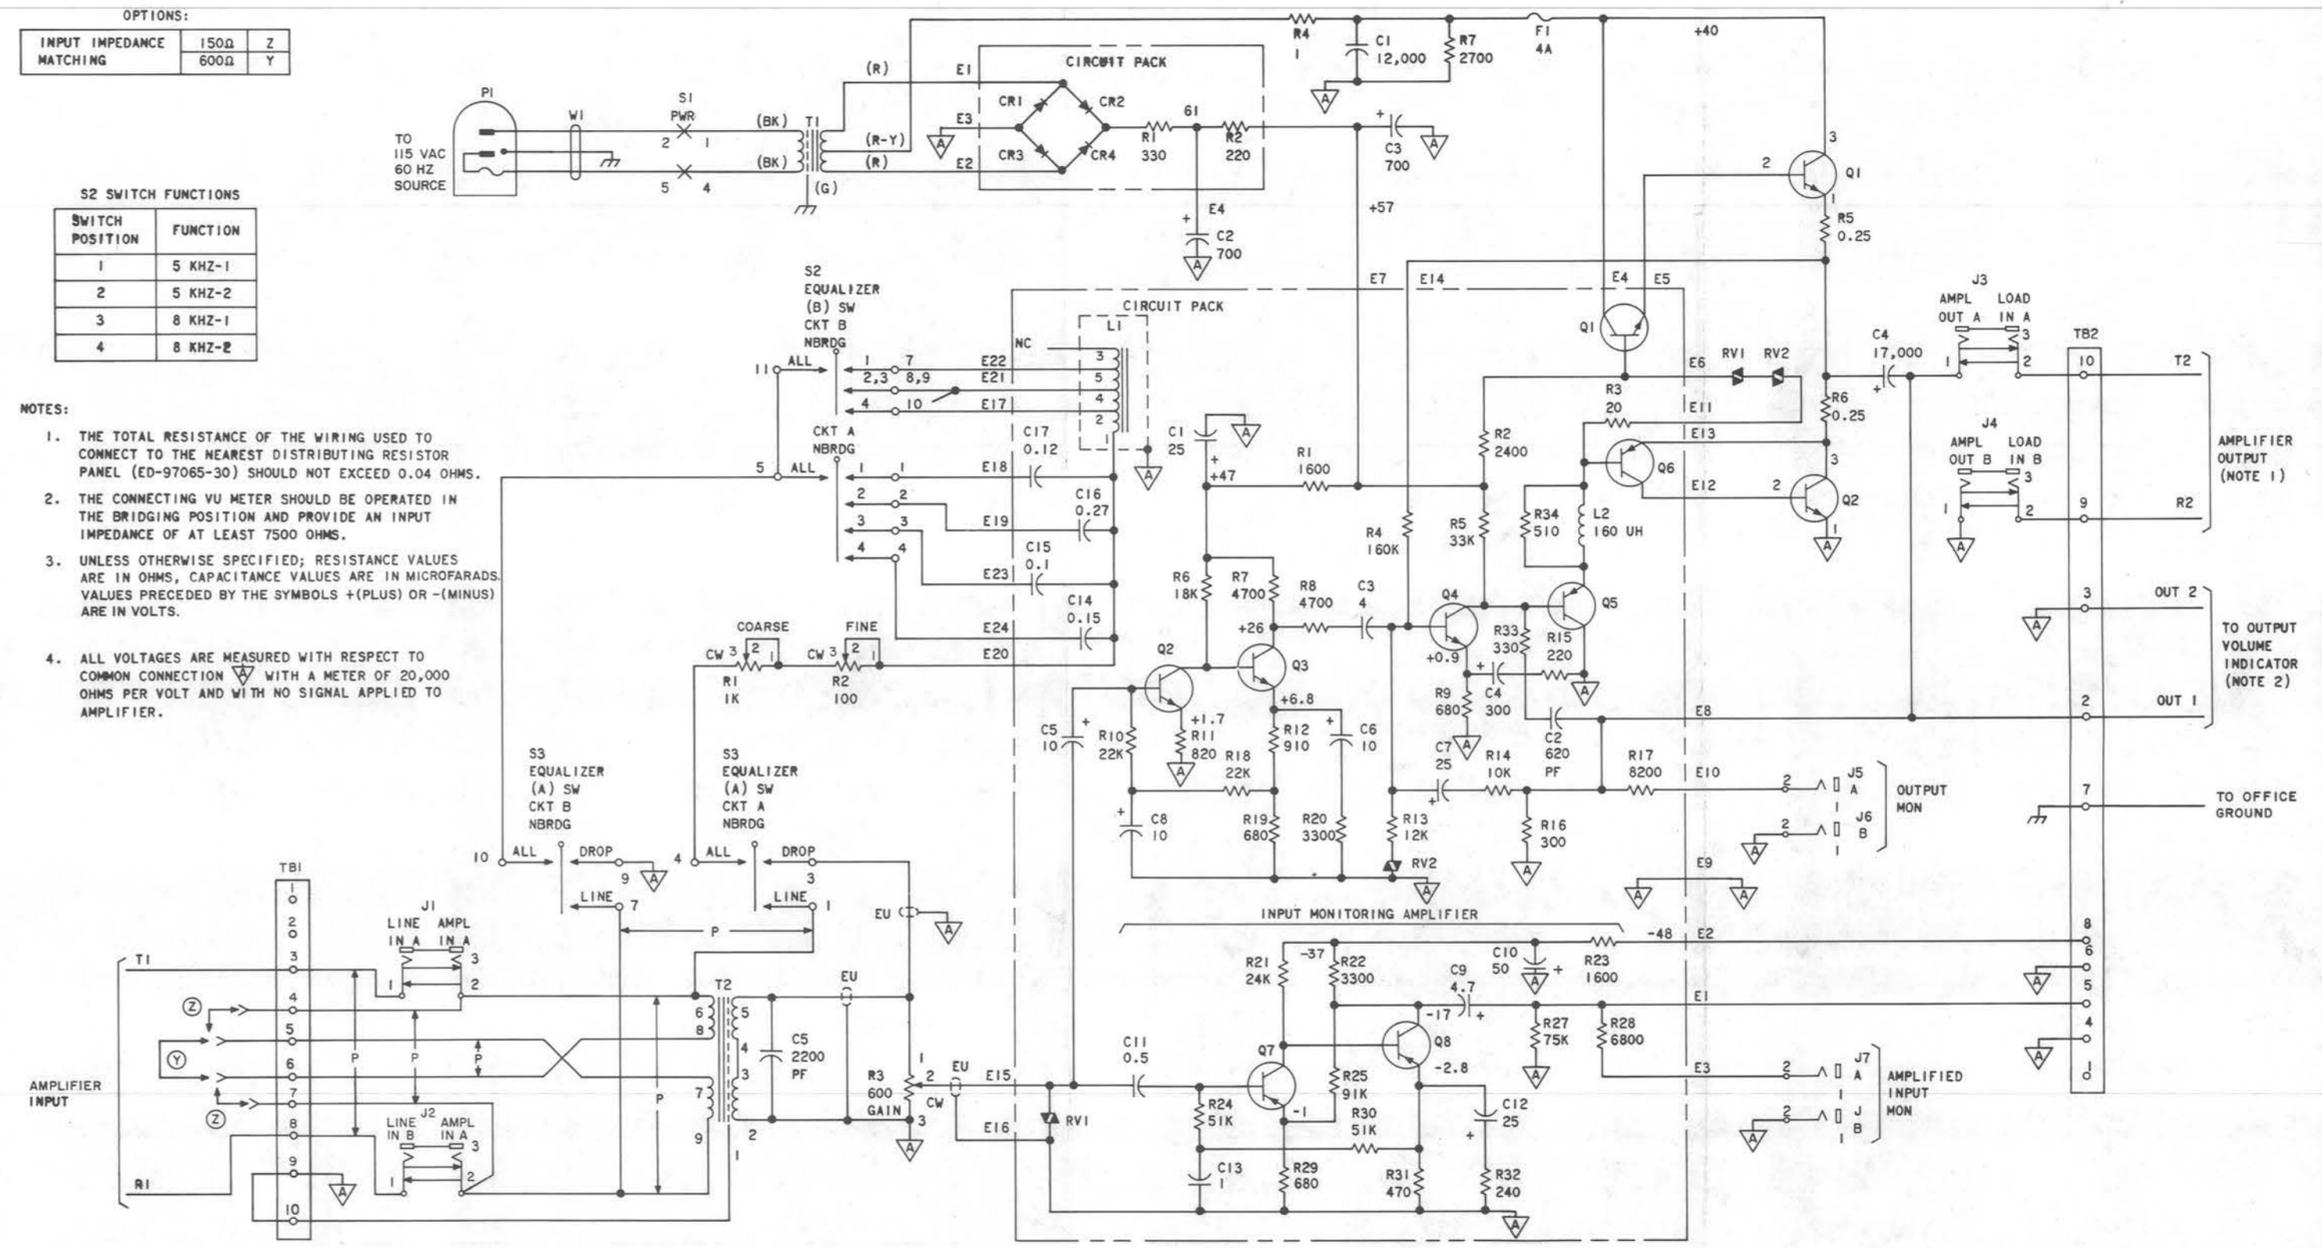

Fig. 5—Schematic of KS-20425 L1 (Manufacture Discontinued) Amplifier System
2.01 The equalizer circuit shown in Fig. 5 and 6 consists of a variable RLC network and two rotary switches. The RLC network is composed of two variable resistors, R1 and R2, in series with the parallel combination of selected inductance and
2.02 The distribution amplifier circuit shown in Fig. 5 and 6 consists of an input transformer, a gain control, and a power amplifier circuit. The